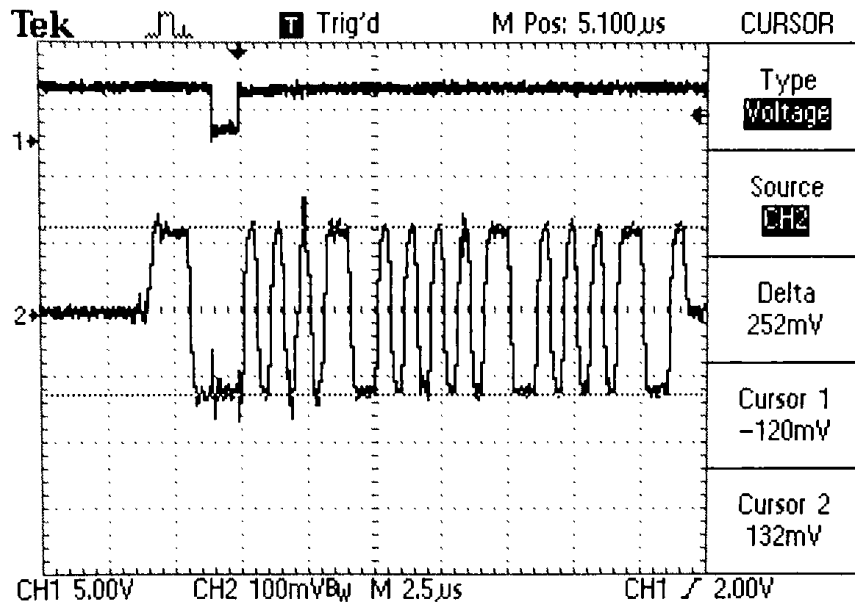

Figure 455-10: Amplitude Test, Millivolts Peak-to-Peak
2. Measure the peak-to-peak amplitude. Verify that the reading is $200 \text{ mV}_{p-p} \pm 300 \text{ mV}$. Refer to Figure 455-10
6. Measure the peak-to-peak amplitude of the 1553 message on channel 2. Refer to Figure 455-10 to verify that the reading is $200 \text{ mV}_{\text{p-p}} \pm 300 \text{ mV}_{\text{p-p}}$